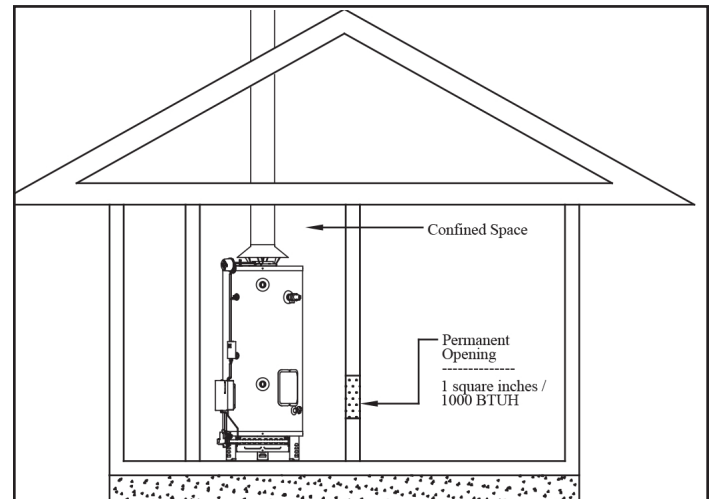

Figure 7 - Confined Space - All Air from Inside Building
The confined space shall be provided with one opening of one (1) square inch per 1,000 BTU/H (22 cm²/kW) communicating directly with one or more rooms of sufficient volume, so that the combined volume of all spaces meets the criteria for an unconfined space for all the appliances installed in that confined space. See Figure 7.